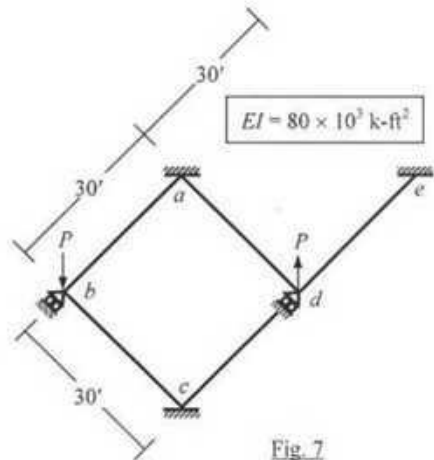

Fig. 7
7. Use the Stiffness Method (considering geometric nonlinearity) to calculate the joint deflections and rotations of the frame loaded as shown below in Fig. 7 [Given:  $EI = 50 \times 10^3 \text{ k-ft}^2$ ].
8. Consider flexural deformations and geometric nonlinearity to calculate the critical buckling force  $P$  of the frame  $abcde$  shown in Fig. 7.
9. Consider flexural deformations only to calculate the natural frequencies of the frame  $abcde$  shown in Fig. 7 [Given: Weight per unit length = 1 k/ft].